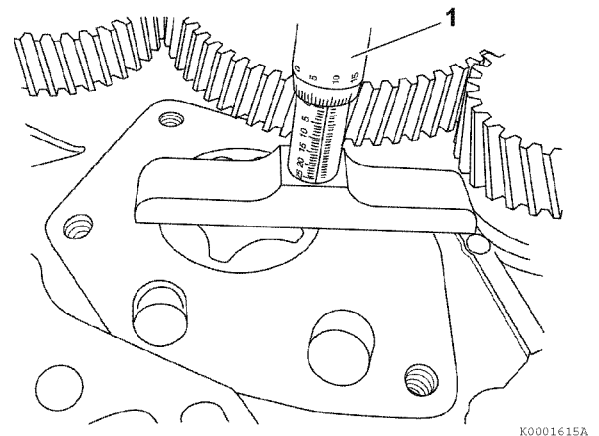

**Figure 9-26**
Determine the outer rotor to inner rotor tip clearance. Insert a feeler gauge between the top of an inner rotor tooth (Figure 9-26, (1)) and the top of an outer rotor tooth (Figure 9-26, (2)) and measure the clearance.